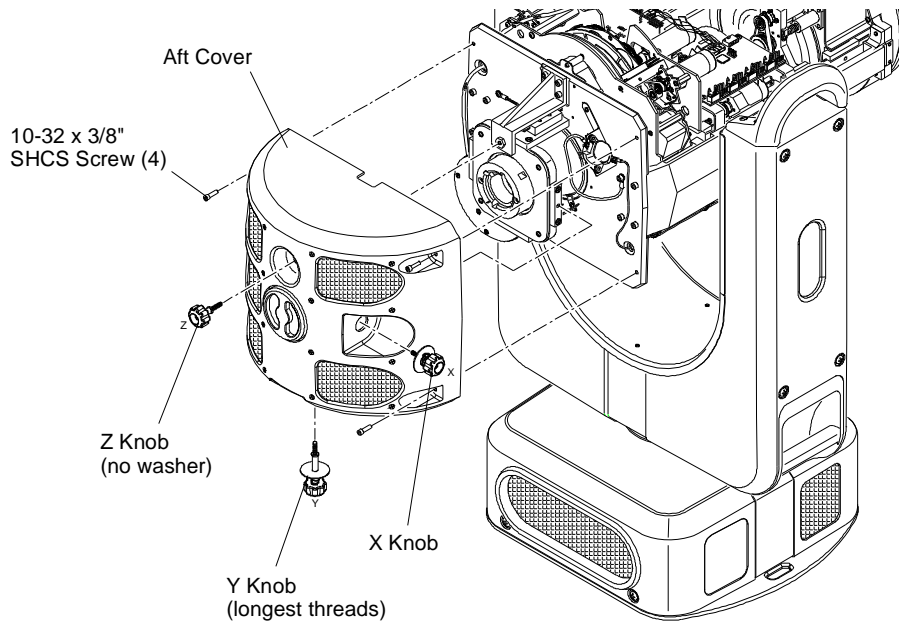

Figure 3-3: Removing Aft Cover
- Step 1. At Aft Cover, remove X, Y, and Z Adjustment Knobs (**Figure 3-3**).